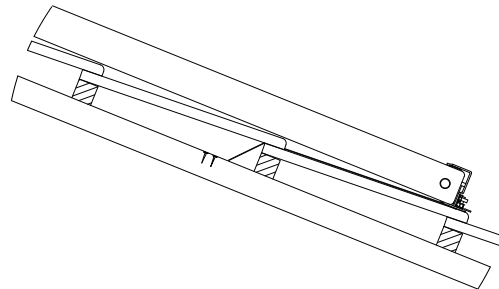

Figure 20 - Mount collector on Roof
- Push down on the collector retainers to clamp the collector and tighten the nuts as shown in **Figure 20**.